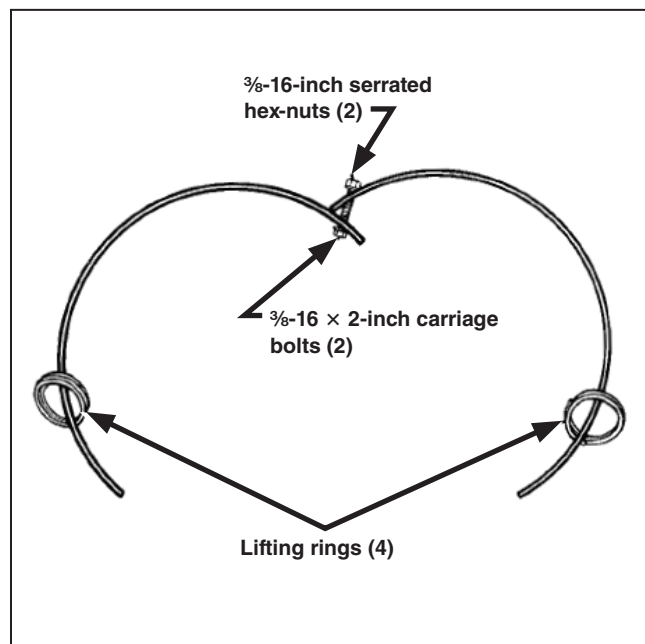

Figure 3. Assembling the spare interrupter container.
- (b) Thread a $\frac{3}{8}$ -16-inch zinc-plated serrated hex nut on each of the two $\frac{3}{8}$ -16 \times 2-inch carriage bolts. Tighten each hex nut just a few turns. See Figure 3.